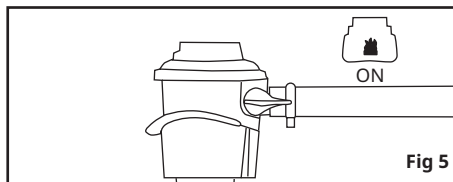

Fig 5
OPEN (ON): After correctly fitting the regulator onto the valve, the gas flow can be opened by turning the knob a half turn counterclockwise until the stop, until you reach the opposite horizontal position. In this position a red flame with "ON" is visible as shown in figure 5. In this position the valve is opened and the gas flow is allowed.